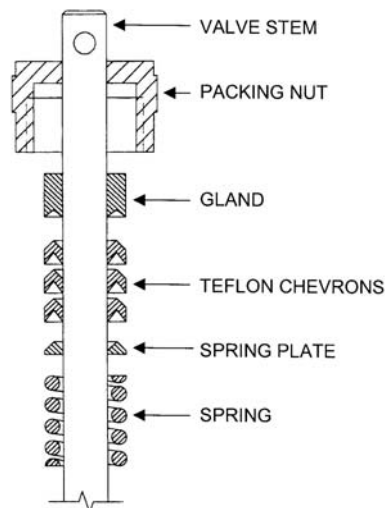

Figure 6
Valve stem packing nut should be kept only **finger-tight**. If valve stem packing must be replaced, follow steps below (See Figures 6 and 7 as applicable).
1. Check packing nut (see Figures 6 and 7) to be sure it is only finger-tight and the valve stem is free to move up and down without undue friction. This will require removing the lock pin and possibly the upper works per Paragraph A.